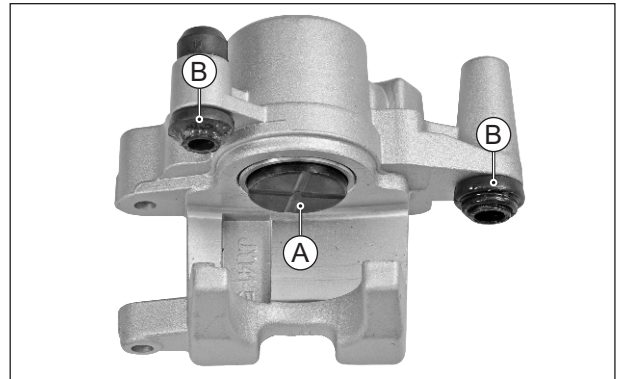

Fig. 6.118
- Carefully pull out the cap piston (A) and boots (B) from the caliper assembly housing. (Fig. 6.118)